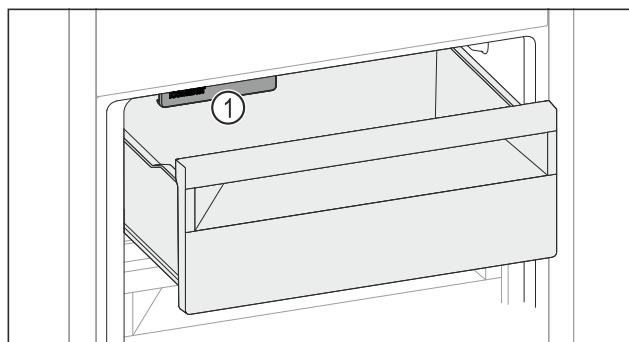

Fig. 157
- Watch out for the IceMaker *Fig. 157 (1)*.